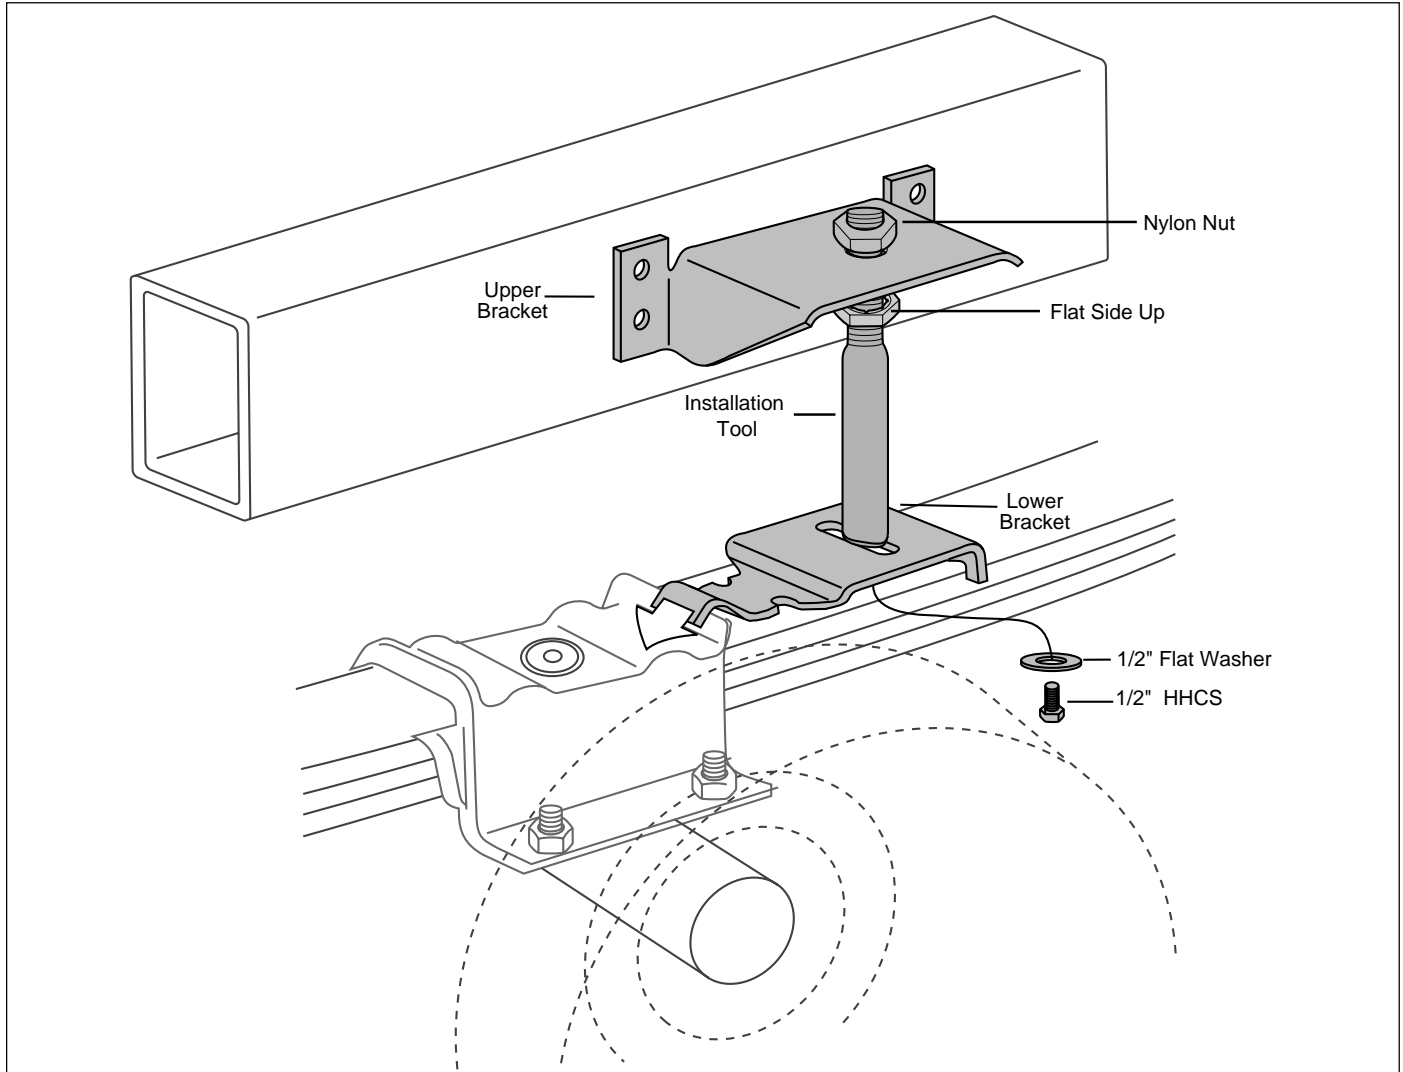
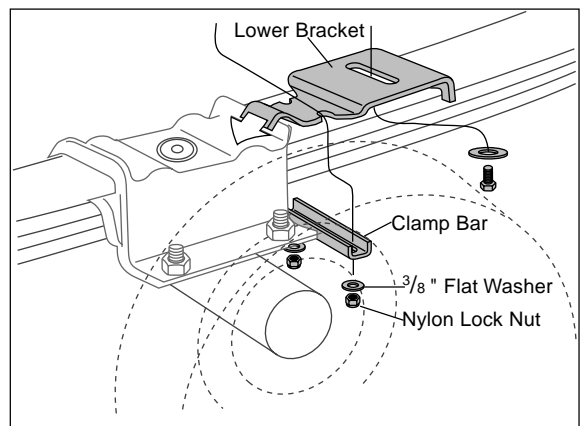

Figure 1
Figure 5
6. Loosely attach the upper and lower brackets to the installation tool using the $\frac{1}{2}$ " flat washer, $\frac{1}{2}$ " bolt, and nylon nut (Figure 1). It is important that the hook of the lower bracket hooks over the U-bolt, spring retainer, etc. so that the bracket is secure in place (Figure 5).
7. The upper bracket can be mounted right side up or upside down to attain correct design height (Figure 1).
8. Using the slot in the lower bracket, push the upper bracket against the frame rail. Use the nuts on the threaded portion of the installation tool to adjust the upper bracket so that the flanges of the upper bracket are flat against the frame rail and all four mounting holes are on the flat middle section of the frame rail. The mounting holes must be at least $\frac{3}{4}$ " from the rounded edges of the frame rail. It is also necessary to allow at least $1\frac{5}{8}$ " above the upper bracket for air fitting clearance. The brackets can be mounted anywhere within the threaded range of the installation tool (Figure 1).
- (6) Assemble the tool with the remaining bracket as shown in Figure 1 and attach lower bracket in the same manner as step 3.